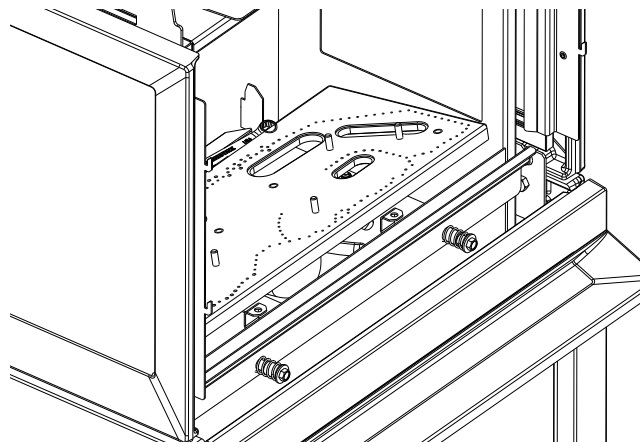

Figure 7.2. Remove Burner.
5. Remove the Burner: Lift the front of the burner base to disengage it from the support brackets and pull it forward off of the burner injector. Then tilt it side-to-side and pull it out through the firebox opening. Fig. 7.2.